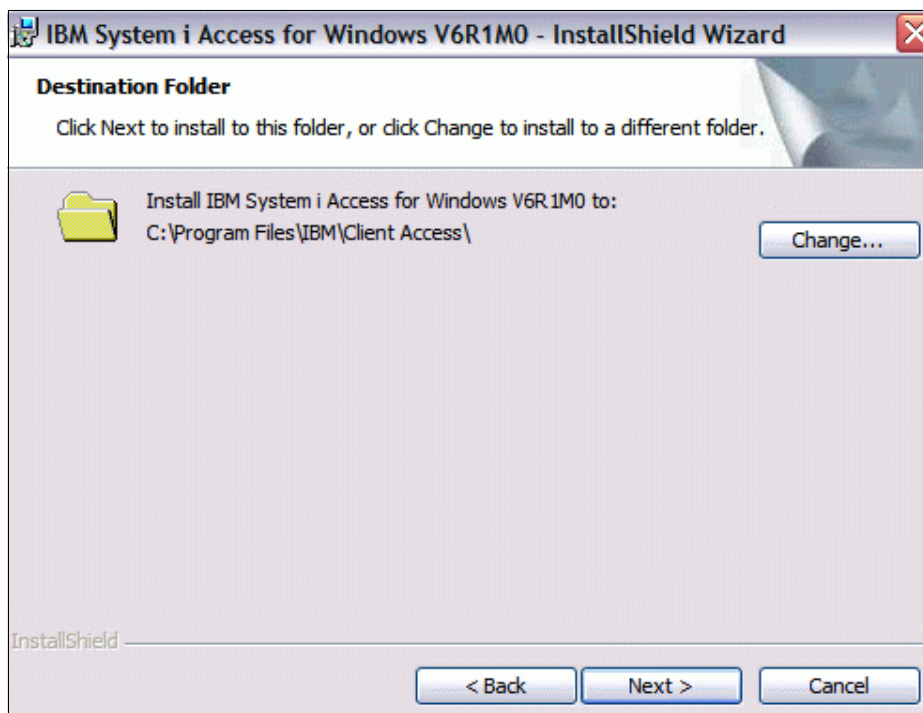

Figure 7-13 IBM System i Access for Windows install location
4. IBM System i Access for Windows can be installed at a different location, as shown in Figure 7-13 on page 264.